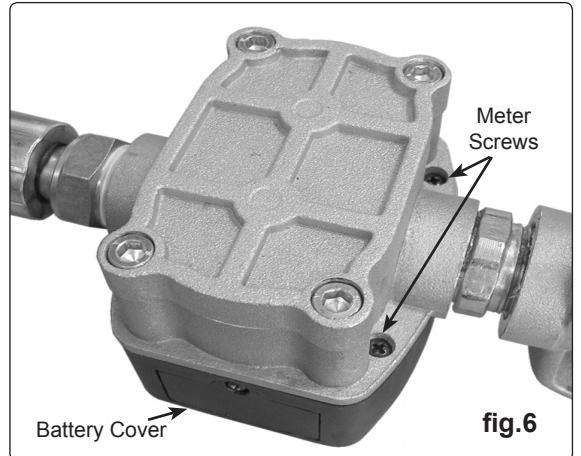

fig.6
- 4.6.1 Remove the rubber protective cover from the meter and unscrew the four phillips screws (fig.6) holding the digital meter, remove from the gun.